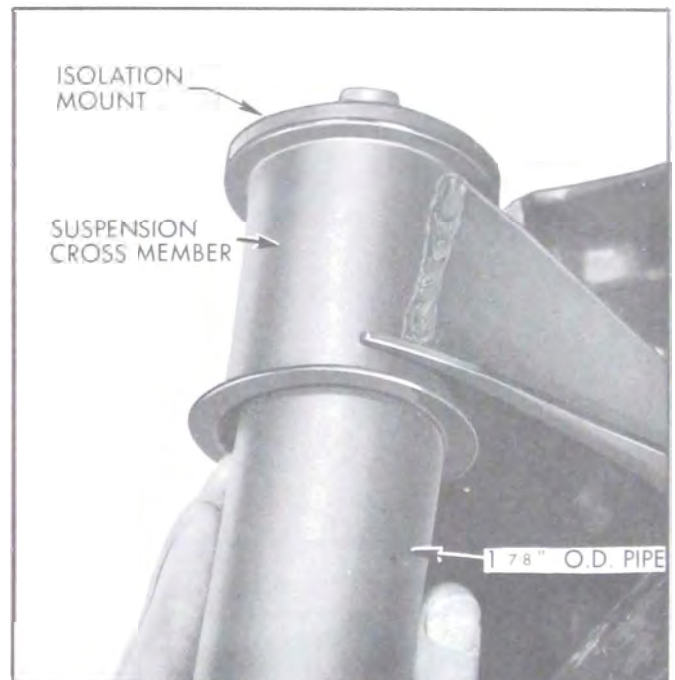

Figure 7-29—Removing Isolation Mount
12. Lower front suspension assembly and drive isolation mount up out of suspension cross member. See Figures 7-29 and 7-30.